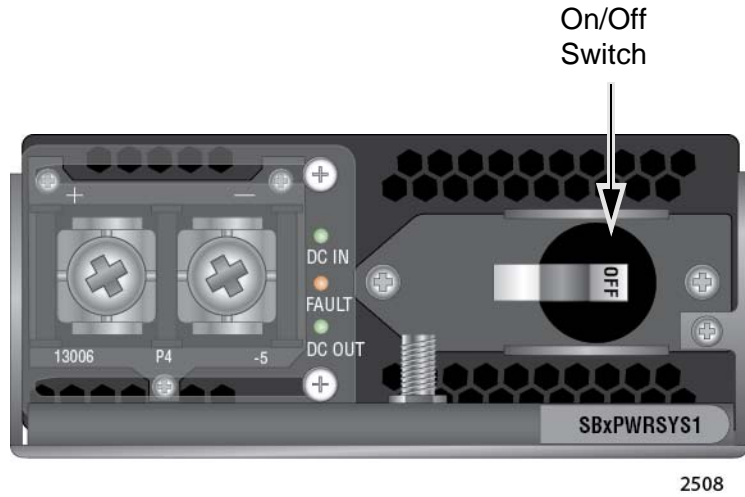

Figure 54. On/Off Switch on the AT-SBxPWRSYS1 DC Power Supply
4. Verify that the On/Off switch on the power supply is in the Off position. Refer to Figure 54 on page 121.